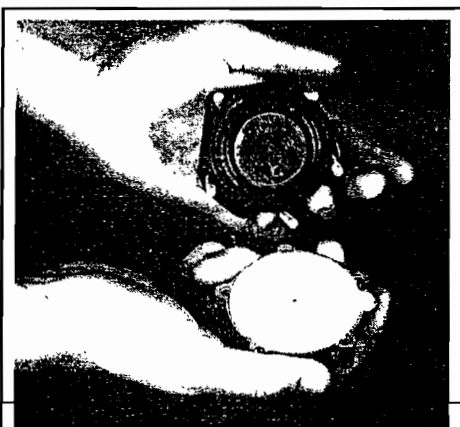

Fig. 91
- (h) Fit replacement diaphragm - ensuring that metal disc FACES diaphragm cover and beaded edge of diaphragm is correctly located in corresponding groove in both cover and plastic housing. Fig.91. Reassemble water valve, taking care to evenly tighten five screws.